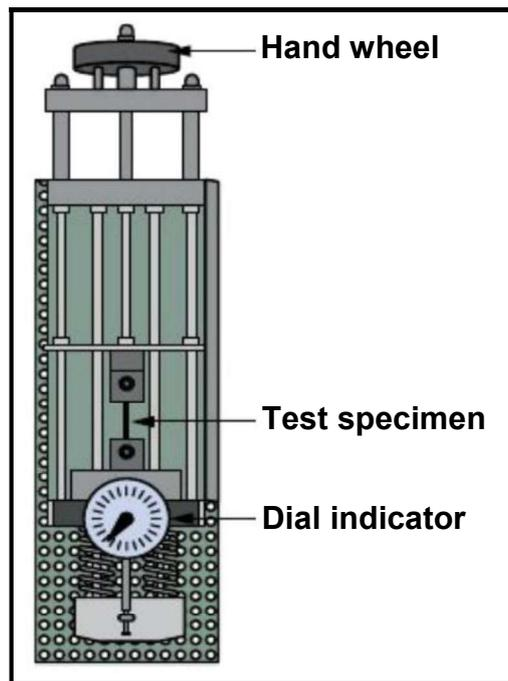

FIGURE 7.4
- 7.4 Identify the type of tester shown in FIGURE 7.4 below.